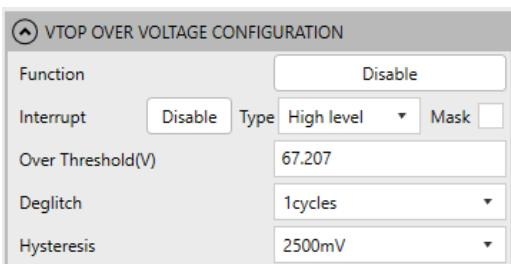

Figure 30: VTOP Over-Voltage Configuration
- Threshold (V): The V_{TOP} UV threshold ranges between 0V and 79.98V.
26. Configure the V_{TOP} UV parameters (see Figure 30).